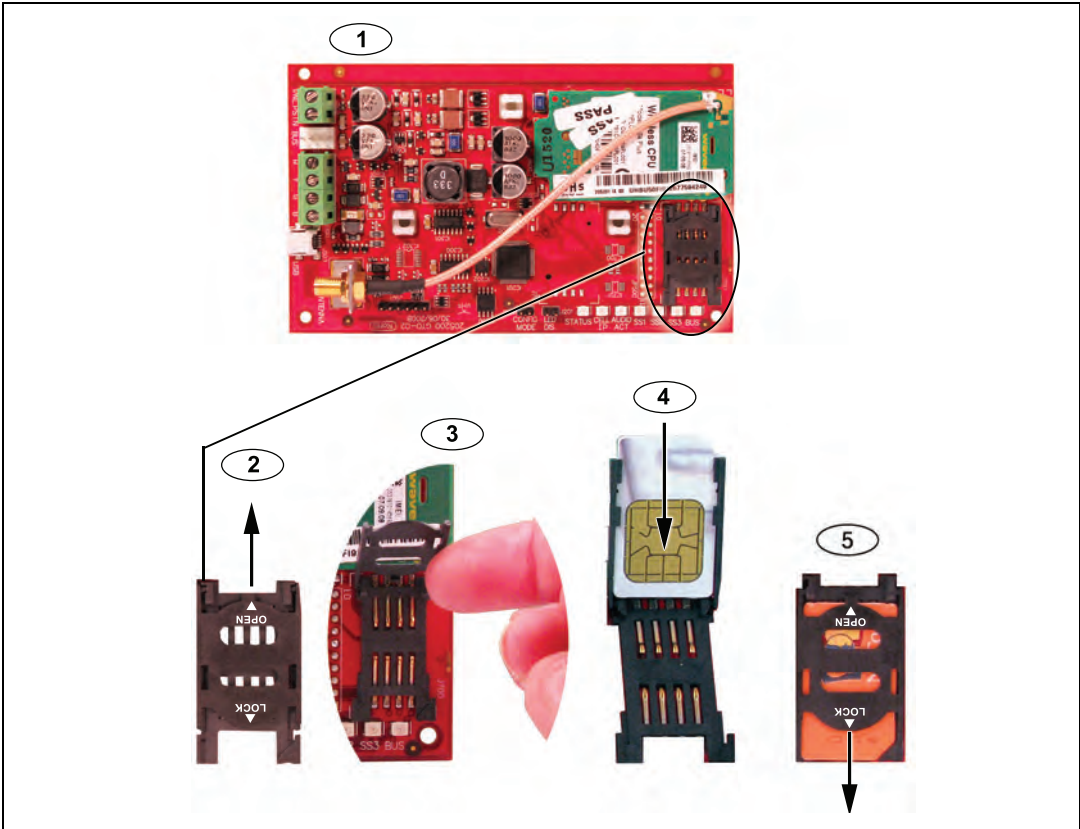

Figure 3.1 SIM Card and Card holder Overview
1. Hold the ITS-DX4020-G communicator as shown in *Figure 3.1*.
The notched edge is away from the hinge, and the contacts are positioned as shown in *Figure 3.1*.